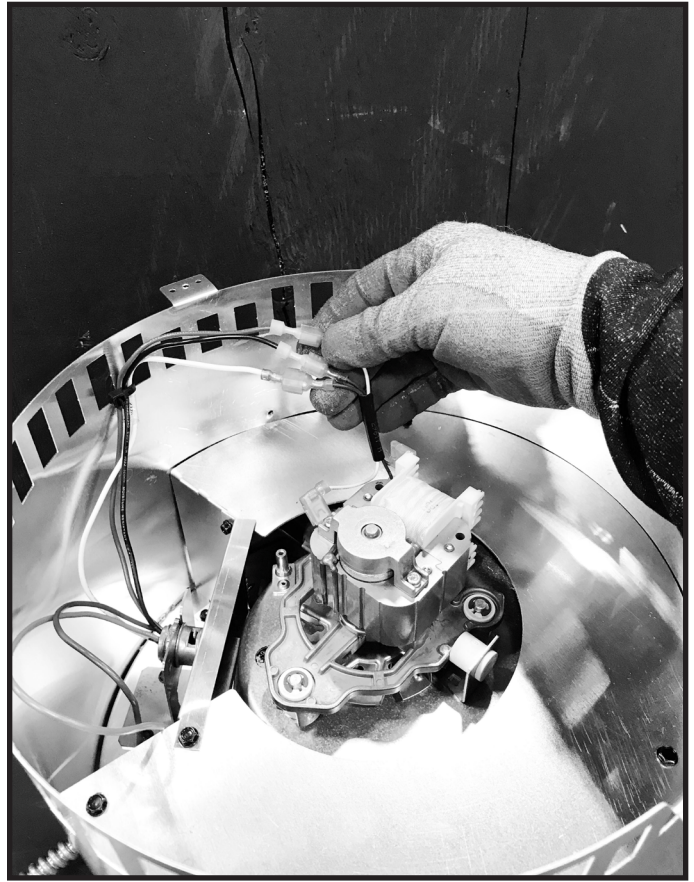

Figure 5.6 Remove Hot, Neutral and Ground Wires
6. Remove hot, neutral, ground wires from the blower. See Figure 5.6.